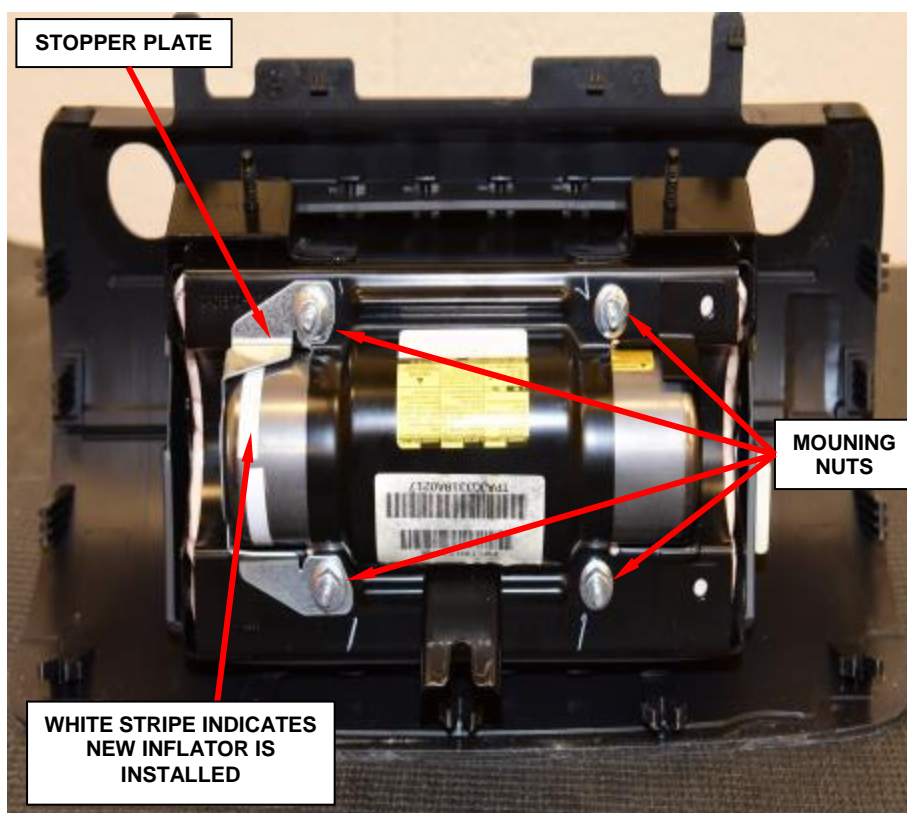

Figure 105 – Retrofit Complete
- f. Install the stopper plate to the airbag module (Figure 105).
- g. Install the four new mounting nuts to the airbag module and tighten to 62 in. lbs. (7 N·m) (Figure 105).
- h. Passenger airbag retrofit is complete (Figure 105).